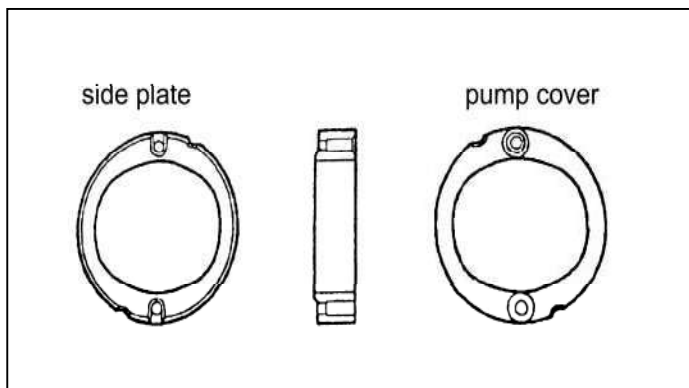

Fig 17-54
(2) CAM SHAFT INSTALLATION(See fig 17-54)